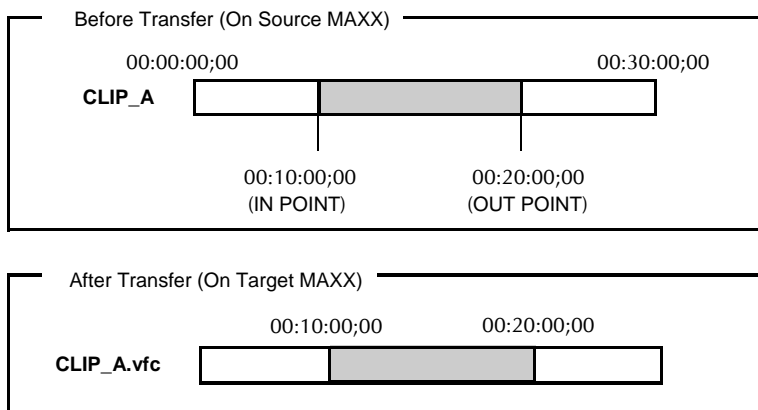

Figure 30 – Result of a VFC file transfer
- To maintain the identity of the transferred clip, the time code references for its Mark-In/Out points are maintained, as shown in **Figure 30**.